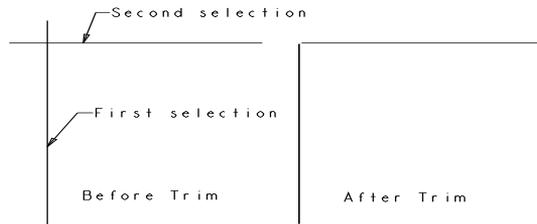

Figure 2-17 Trimming the lines
2. Click to select the two entities on the sides that you want to keep after the trimming action, see Figure 2-17. These two entities must be intersecting entities. The entities are trimmed from the point of intersection.